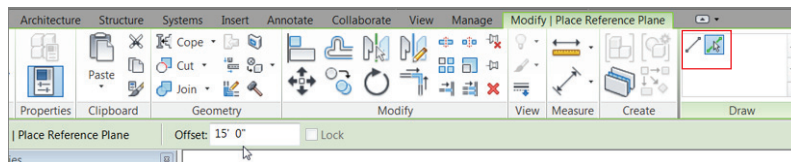

FIGURE 2.4: Offsetting a reference plane
8. On the Draw panel, click the Pick Lines icon, as shown in Figure 2.4.
9. Set Offset to 15'-0" (4500mm) (Imperial users, remember, you can type 15, and metric users type 4500), as shown in Figure 2.4.